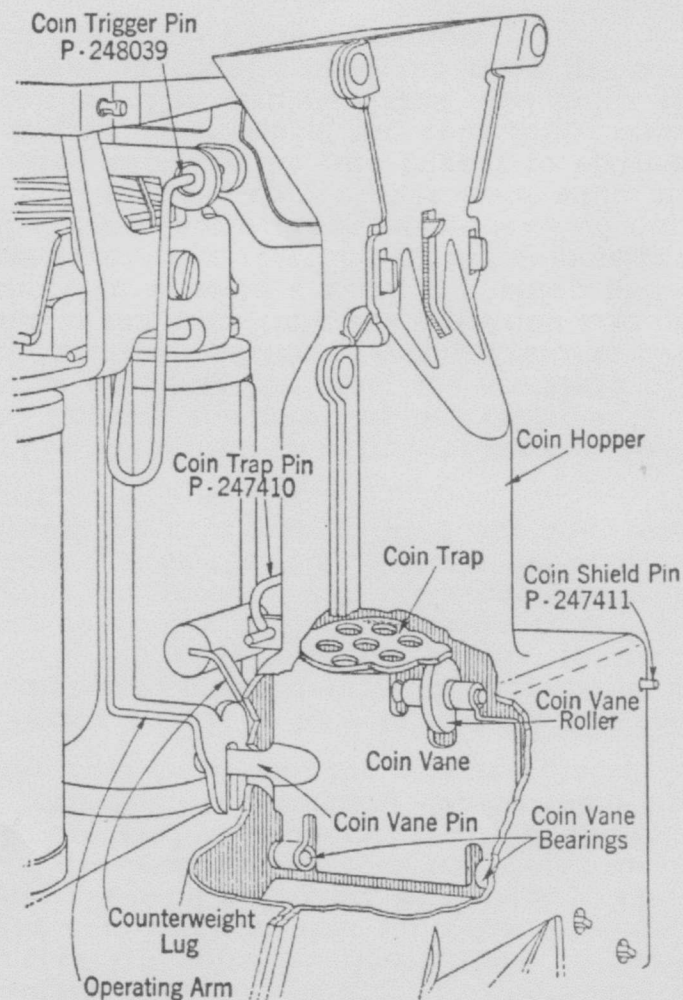

Fig. 8
5.02 When a coin drops into the coin hopper it trips the coin trigger and comes to rest on the coin trap where it is held until the coin relay is operated. See Fig. 8. The tripping of the coin trigger permits the coin trigger lever to fall and the coin trigger lever spring then pushes the coin trigger lever against the inner ground contact spring causing this spring to make contact with the outer ground contact spring. This contact closes a circuit from the tip side of the line through the coin relay to ground and is maintained until the armature of the coin relay has operated and has nearly restored.